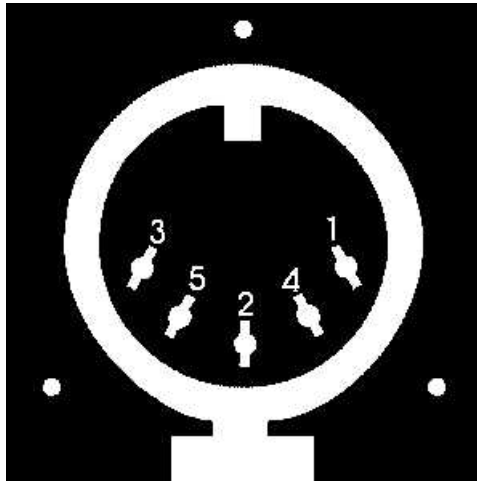

Fig. 3-1 Radio Port 1 and Radio Port 2 Connector
Interfacing the MFJ-1278B to your radios involves connecting the following signals at Radio Port 1 and Radio Port 2. The pin outs of Radio Port 1 and Radio Port 2 are shown in Fig. 3-1.
The MFJ-1278B gives the user two (2) radio ports. This allows for both FM and HF operation from either radio port. Since the radio ports are independent of each other, the user is not restricted to FM or HF operations. The radio ports on the MFJ-1278B allow an FM radio and an HF radio to be connected at all times. In fact you can have any combination of HF radios or VHF radios connected to the radio ports at any time. The pin designations for both radio ports are exactly the same. See Fig. 3-1 for the radio port pin designations. The radio ports on the MFJ-1278B are switched by using the RADio command. We will discuss radio port switching in the next chapter.